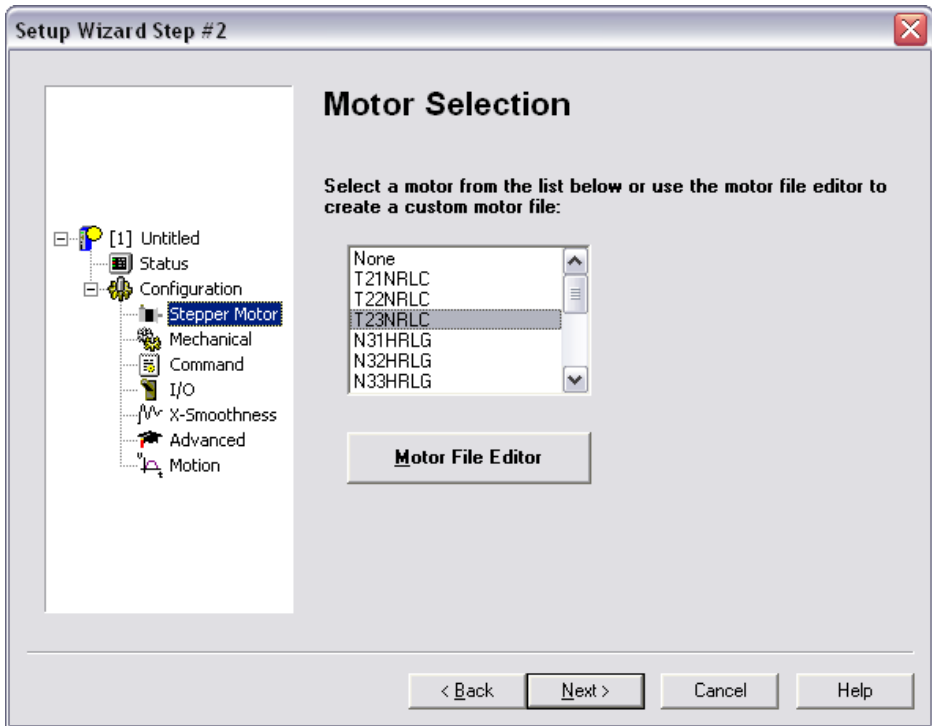

Figure 12. Motor Selection
- In the motor selection dialog, shown in Figure 12, select the NI stepper motor you have connected to the drive. If you are using a third-party motor, select **None** from the list, click the **Motor File Editor** button, and enter the motor information. The T23NRLC motor is selected in this example.